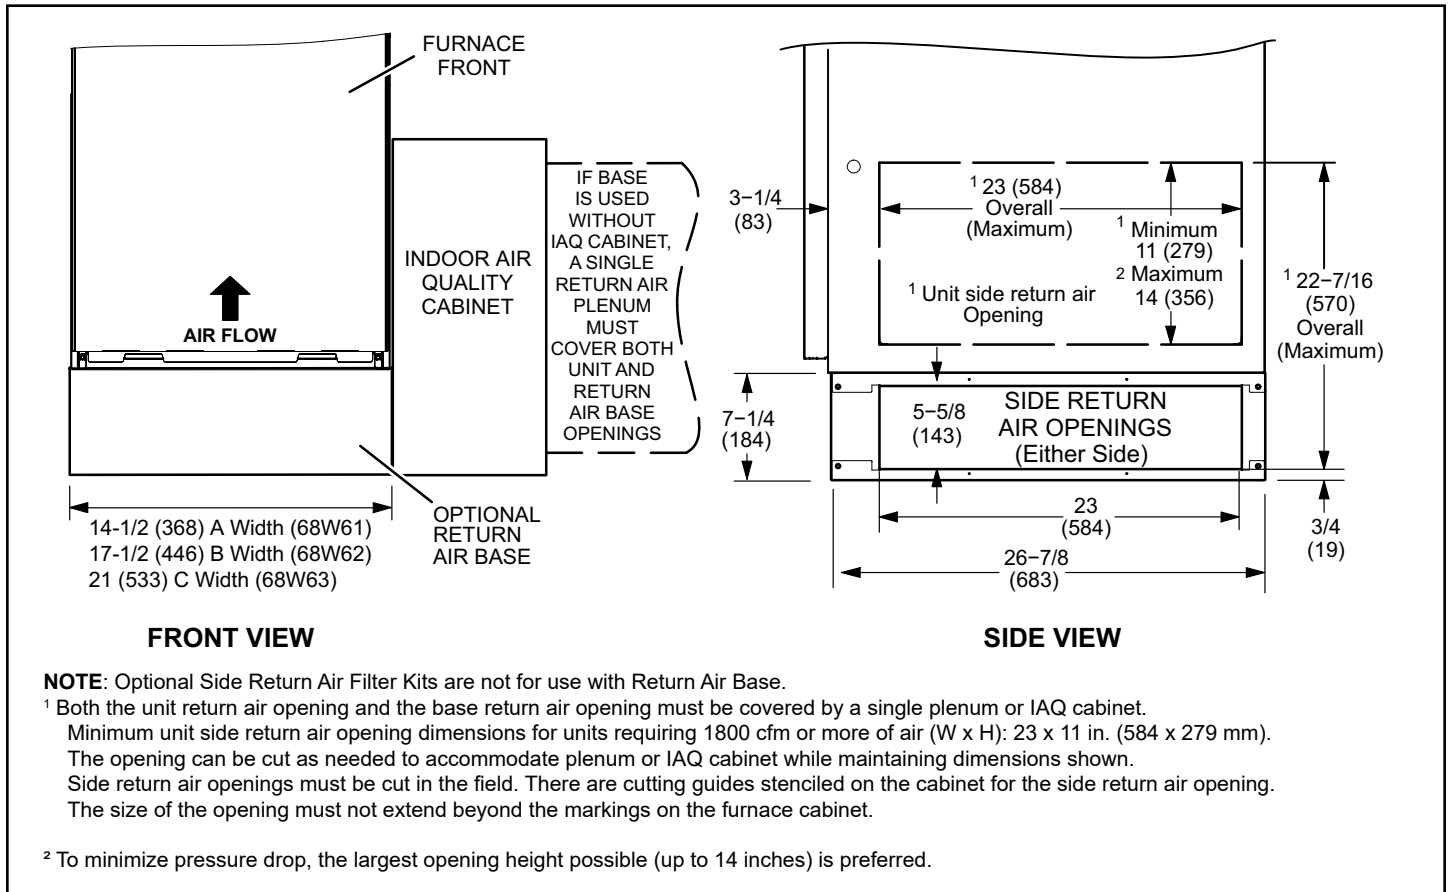

Figure 10. Optional Return Air Base (Upflow Applications Only - For Use with A, B, and C Cabinets)
2. Return air from single side with optional RAB Return Air Base. See Figure 10.